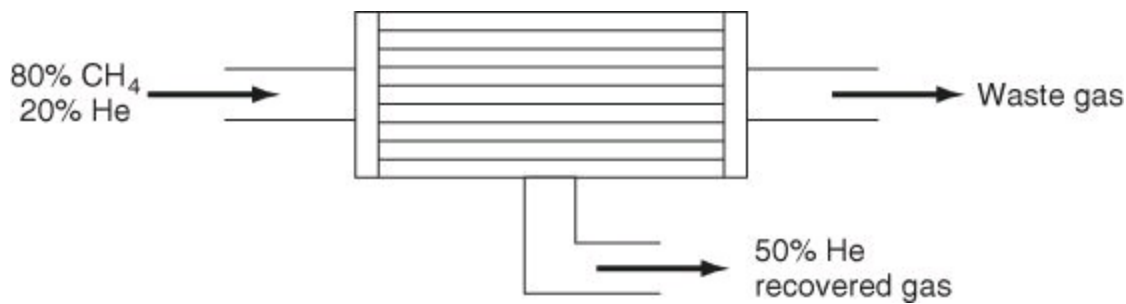

Figure P4.1.8
- **4.1.8. A gas containing 80% CH₄ and 20% He is sent through a quartz diffusion tube (see Figure P4.1.8) to recover the helium. Twenty percent by weight of the original gas is recovered, and its composition is 50% He. Calculate the composition of the waste gas if 100 kg moles of gas are processed per minute.